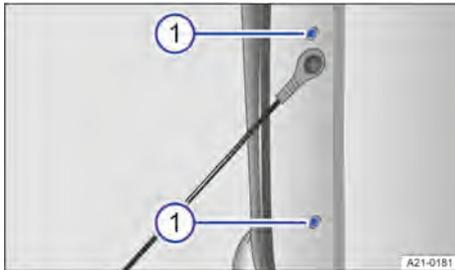

Fig. 160 On the side of the loadbed: removing the tail light cluster.
4. Use the screwdriver to unscrew two screws → Fig. 160 ①.
13. Use the screwdriver to tighten two screws → Fig. 160 ①.